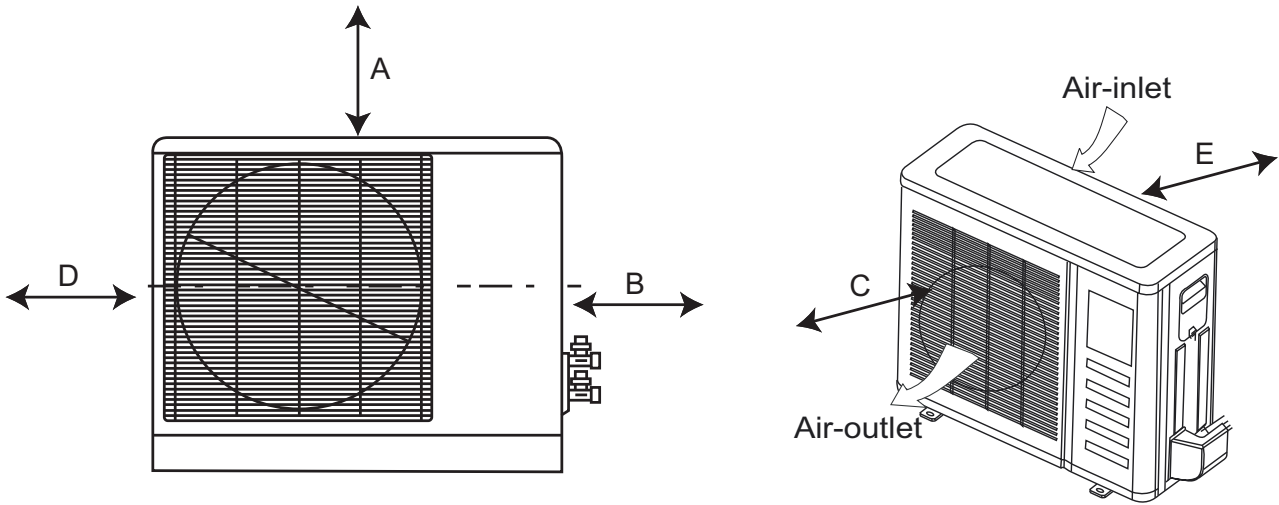

Fig. 6 — Outdoor Unit Clearances
Allow sufficient space for airflow and service of the unit. See Fig. 6 for the required minimum distances between the unit, walls or ceilings.
- A location which provides appropriate clearances (see Fig. 6).